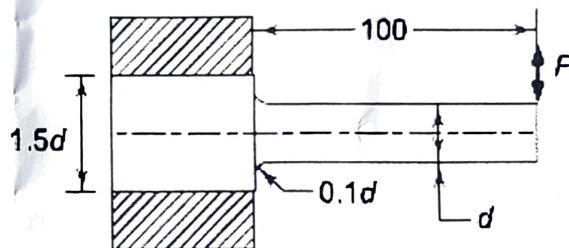

Fig. 1 Cantilever Beam (All dimensions are in mm)
2. A cantilever beam made of steel Fe 540 ($\sigma_{ut} = 540 \text{ N/mm}^2$ and $\sigma_{yt} = 320 \text{ N/mm}^2$) and subjected to a completely reversed load (P) of 5 kN is shown in Fig. 1. The beam is machined and the reliability is 50%. The factor of safety is 2 and the notch sensitivity factor is 0.9. Calculate (i) endurance limit at the fillet section; and (ii) diameter d of the beam for infinite life. [10]